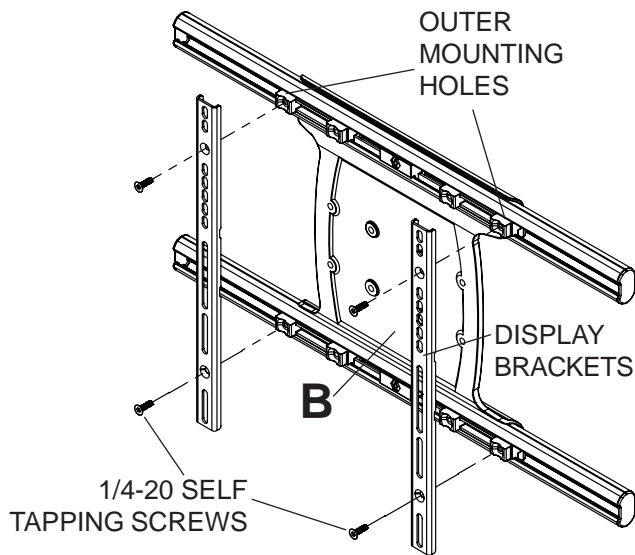

fig. 4.1
Remove four 1/4-20 self tapping screws to detach display brackets from outer mount holes of universal adapter bracket (B) using 5mm allen wrench (I) as shown in figure 4.1. Reinstall four 1/4-20 self tapping screws to secure display brackets to inner set of mounting holes on universal adapter bracket (B) as shown in figure 4.2.